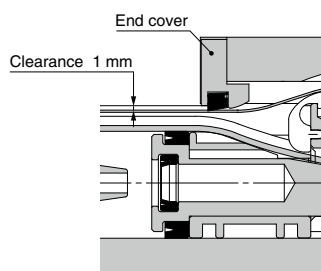

Fig. 3
* When attaching the end cover, be sure to leave about 1 mm clearance between the bottom of the end cover and the top surface of the cylinder tube. (Refer to Fig. 3.)